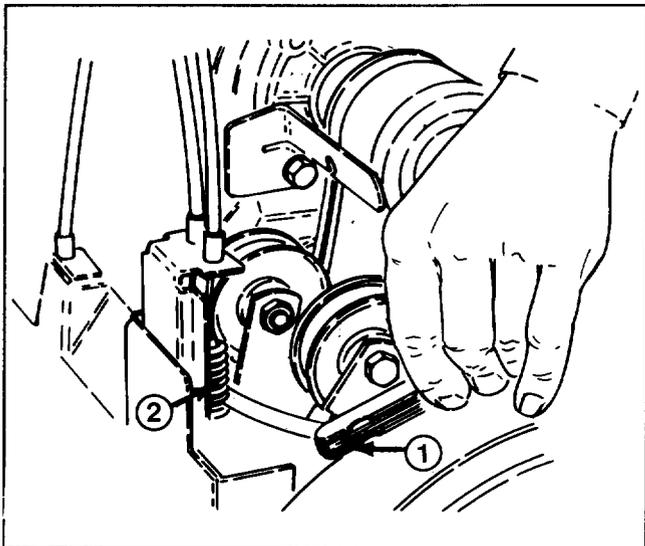

Figure 25
With the engine off, depress the impeller lever on the right handgrip. Hold the lever and insert a .010" (.25mm) feeler gauge between the coil in the center of the spring (Fig. 25). Adjust the cable to achieve .009" - .012" (.23mm - .3 mm) gap between the coils.
2. Flange head capscrews (2) 5. Auger/Impeller belt
8. On control cable which corresponds to belt being replaced, loosen jam nuts securing cable to bracket (Fig. 25). Cable must be free to slide in bracket when changing belt(s).